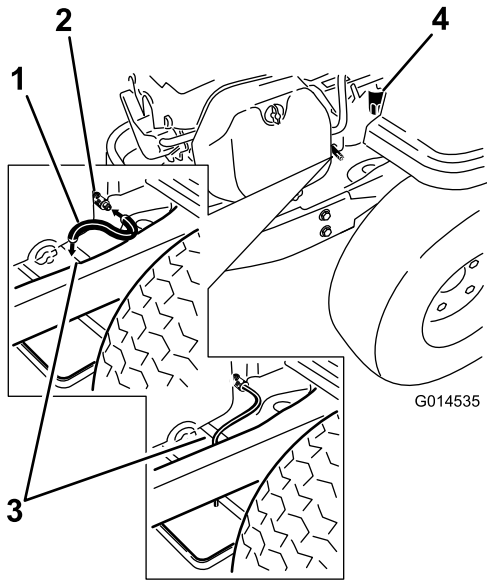

Figure 30
4. Clean the area around the drain valve and on the machine frame. Locate the oil drain hose and slide it over the drain valve (Figure 30).
5. Place the opposite end of the oil drain hose over the end of the frame (Figure 30).